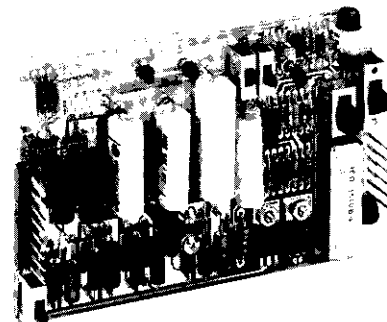

figure 1. 9961D Signaling Converter DX Subassembly
1.01 The Tellabs 9961D Signaling Converter DX subassembly (figure 1) provides extended-range E-and-M-lead (DX) signaling over a 2wire or 4wire metallic transmission facility. The 9961D may be switch-optional for either DX1 or DX2 operation. When optional for DX1 operation, either Type I or Type II E-and-M-lead interfacing may be selected.